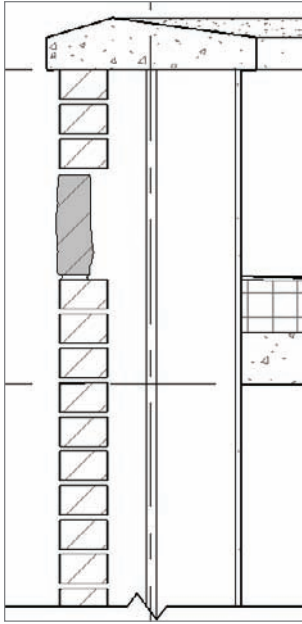

FIGURE 12.32 The new soldier brick in the model
22. Go back to your model to verify that your detail looks like Figure 12.32.